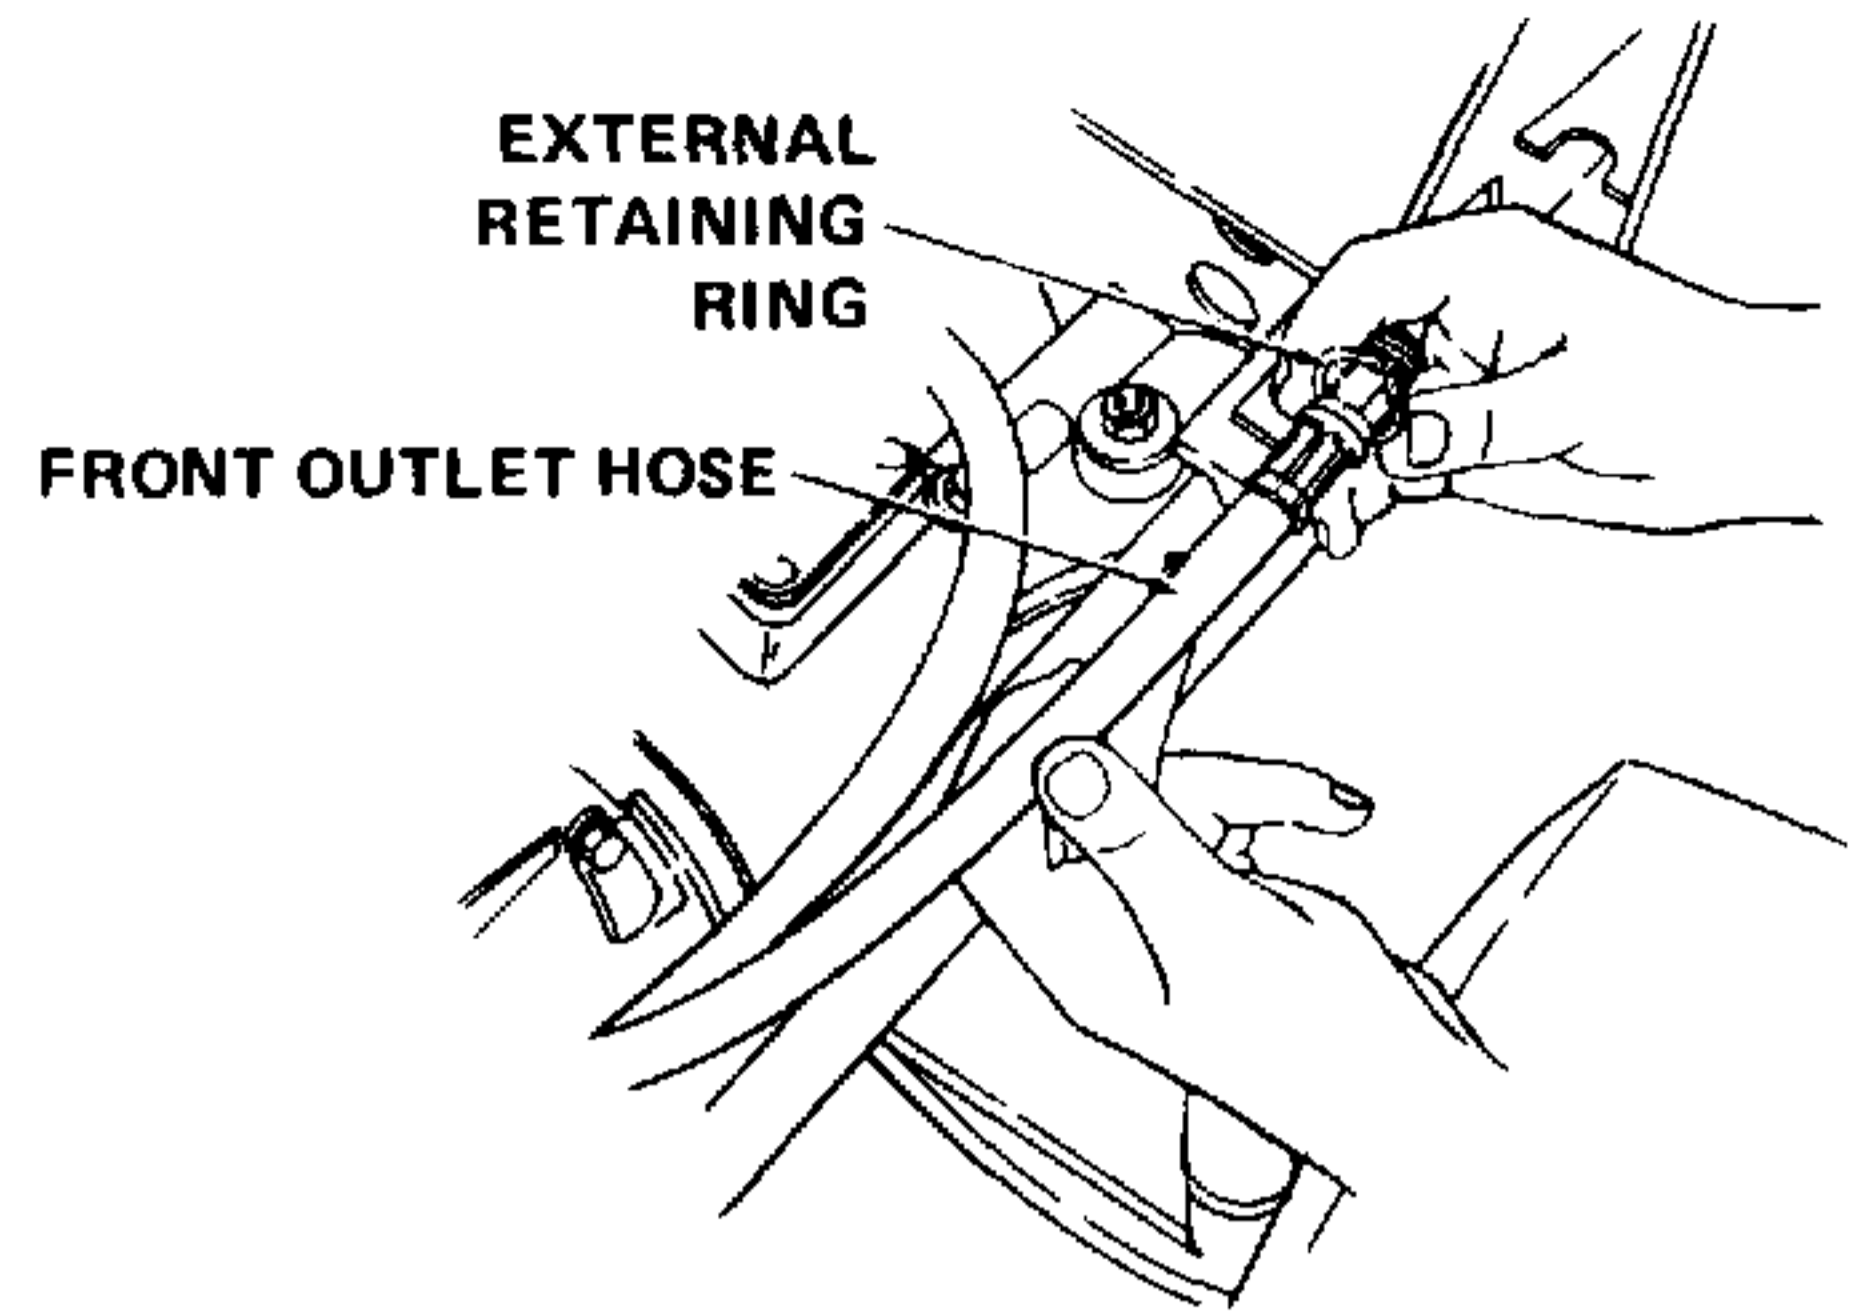

Figure 7-89. Installing Front Outlet Hoses.
8. Place an external retaining ring (19, Figure 7-66) on each of front outlet hoses as shown in Figure 7-89.